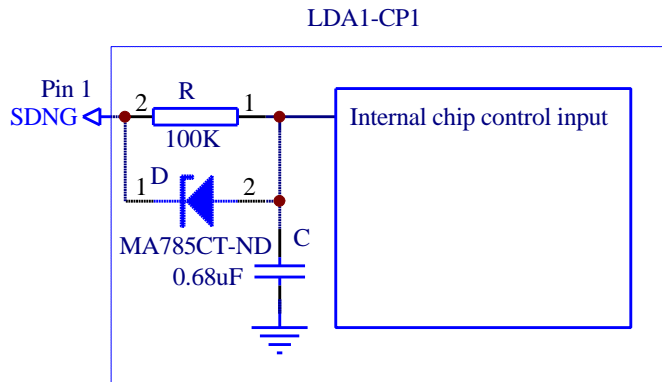

Figure 1
- Pin 12** LDA, laser diode anode, analog output. This pin is used to drive a laser of which the cathode is connected to the case and the case is connected to the ground. See Figure 1.
- Pin 13** LDC, laser diode cathode, analog output. **This pin is internally connected to ground.** Connect it directly to the laser's cathode which is also the case of the laser. See Figure 1.